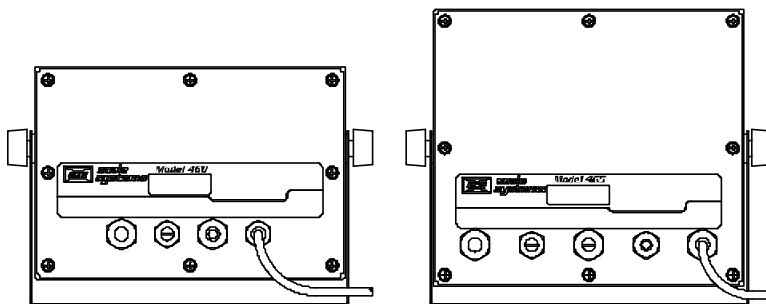

Figure 2-1: 460 and 465 Rear Panel
3. Using a #2 cross-tip (Phillips) screwdriver or an 8mm socket, remove the eight 8-mm hex head screws from the rear panel (see Figure 2-1).